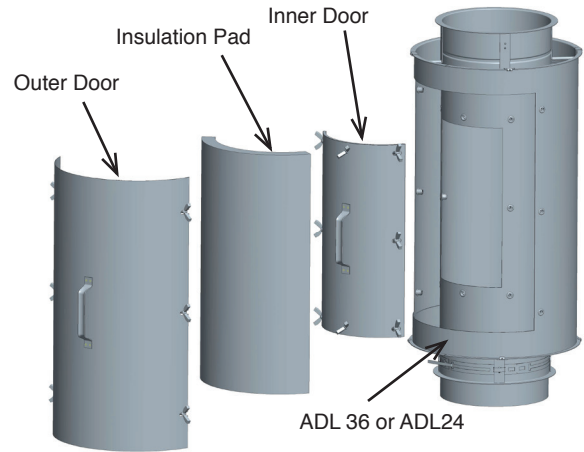

Figure 87: Step 4-5 of Removal for Inspection for the ADL
- 5- Remove the Inner cover and set it in a safe place. See Figure 87